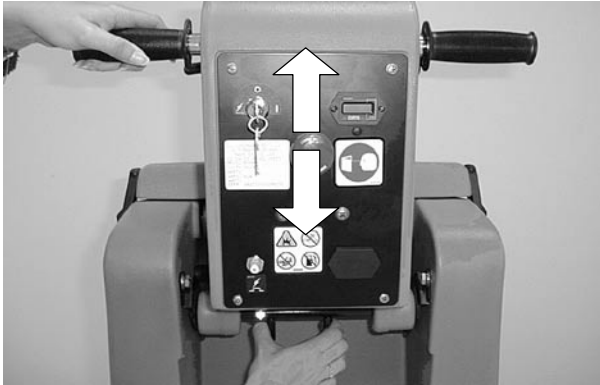

FIG. 8
2. Squeeze levers together and lift or lower control grips to a comfortable operating height (Figure 8).